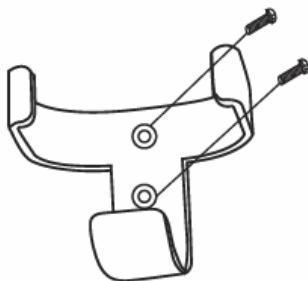

Fig. 13a
- Locate a suitable wall to fix the remote control holder with the 2 screws. (Fig. 13a).